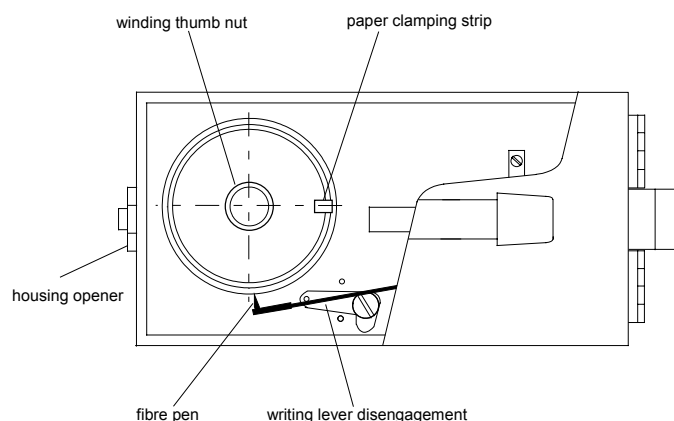

Figure 12
5.3 Paper drum for drum-chart recorders according to figure 12
Take the recording lever from the transportation lock (wire spring). Push the fibre pen to the stop position on the recording lever. Remove the cap on the pen and loosen the recording lever release rod (figure 12). The pen can be used now. Replace the recording lever in the transportation lock before every transport (pressure recorders and drum-chart recorders only).